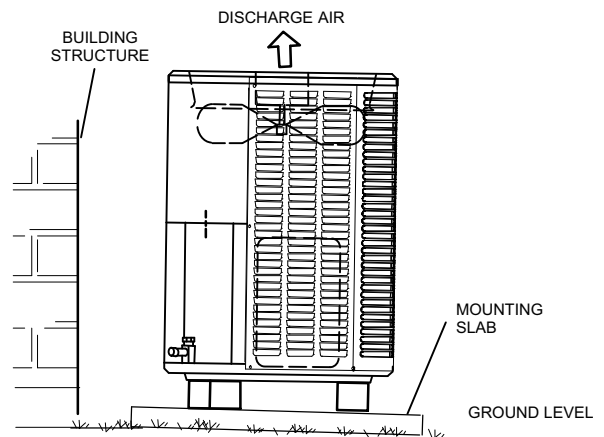

Figure 6. Placement, Slab Mounting and Wind Barrier
- When possible, do not install the unit directly outside a window. Glass has a very high level of sound transmission. For proper placement of unit in relation to a window see the provided illustration in figure 6, detail A.
When installing unit at grade level, the top of the slab should be high enough above grade so that water from higher ground will not collect around the unit. The slab should have a slope tolerance as described in figure 6, detail B.
Install the unit a minimum of 4 inches (102 mm) above the roof surface to avoid ice build-up around the unit. Locate the unit above a load bearing wall or area of the roof that can adequately support the unit. Consult local codes for rooftop applications. See figure 6, detail C for other roof top mounting considerations.